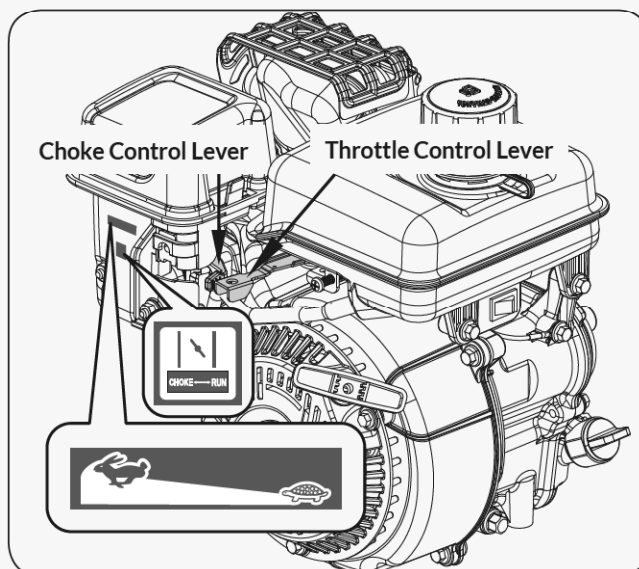

Figure 9
2. Move the choke lever to the CHOKE position. (see **Figure 9**)
3. Move the throttle lever slightly forward to about ¼ of the way (Slightly toward the fast position). (see **Figure 9**)